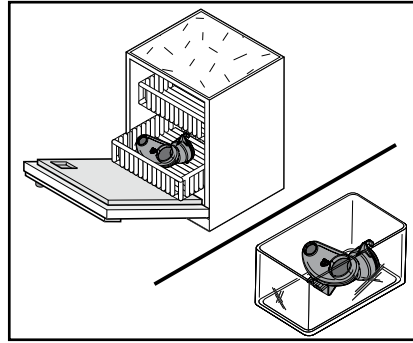

Fig. 29
- e. Clean the mixing bowl and the sealing ring (fig. 29):